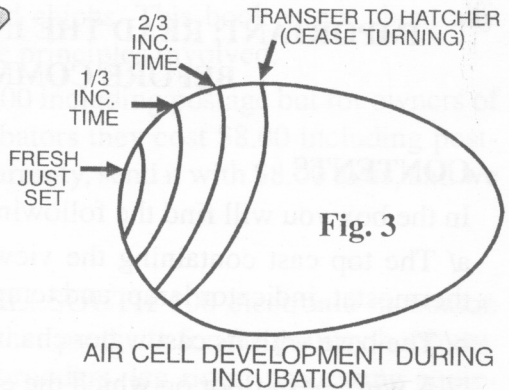

Fig. 3
7) Candling the eggs is a useful technique for assessing the process of incubation. Candling is carried out in a darkened room using a small light source. This can be a torch with a cover attached and a hole about 15 to 20mm diameter. When directed at the large end of the egg the inside of the egg will be illuminated. Look through the side of the egg. This will show the air cell, and the growth of the embryo. The development of the air cell is shown in (Fig 3). The eggs should be candled at 7 days and any clear eggs, eggs where the embryo is stuck on the shell, or eggs with broken blood vessels should be removed. Experience will show up these eggs. Healthy embryos will show up as a spidery network of veins with a central embryo. .